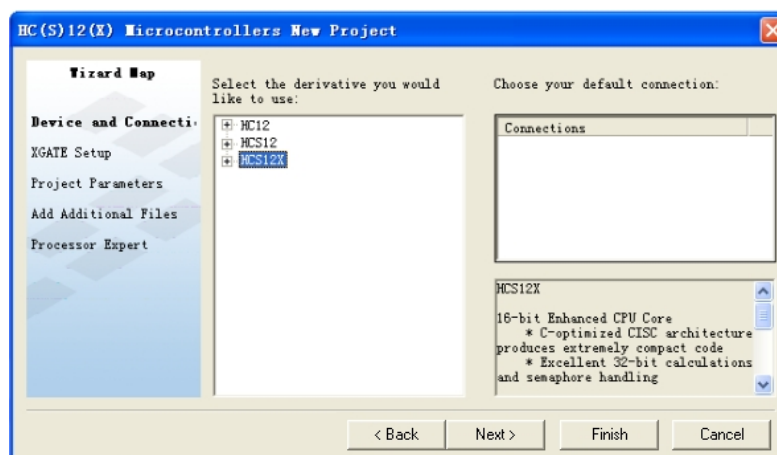
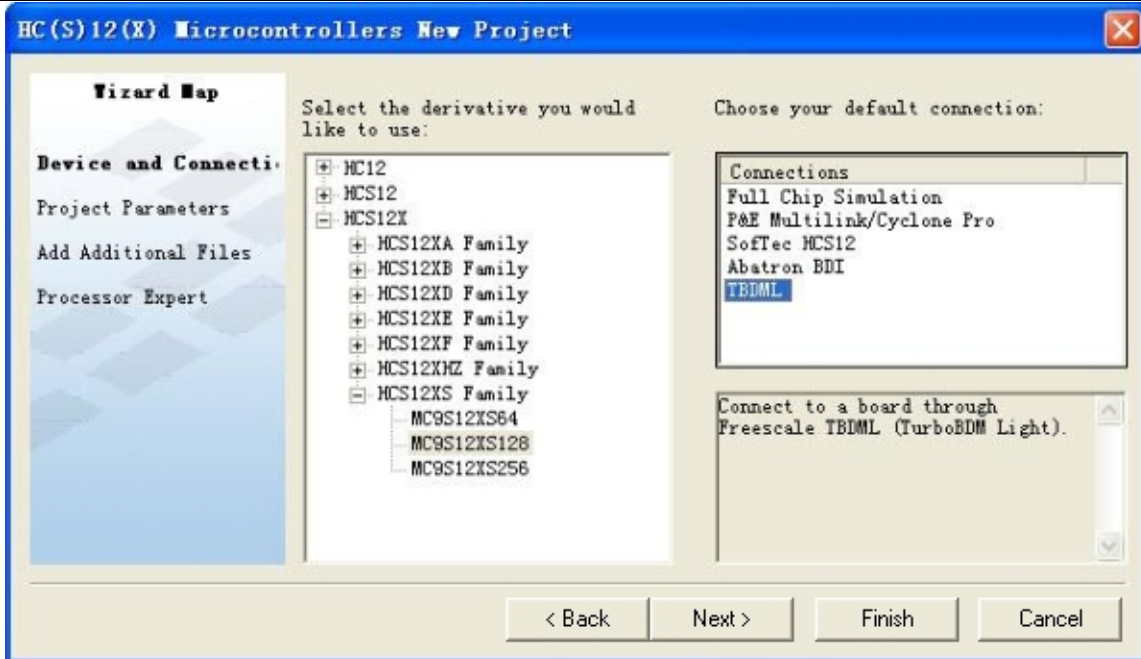

Figure 3-2 HC(S) 12(X) Microcontrollers New Project Screen
Figure 3-3 HC(S) 12(X) Microcontrollers New Project Screen
- 3.In the tree navigate to the family and select derivative, for example **HCS12X> HCS12XS Family > MC9S12XS128**.(Take **MC9S12XS128** for example) As shown as the **Figure 3-2** and **Figure 3-3**.